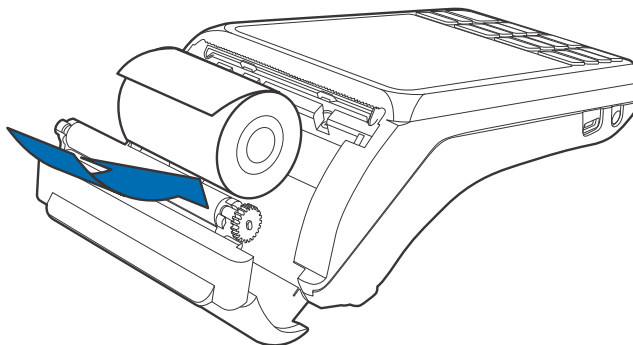

Figure 13 Procedure for Loading Paper Roll
- 2 Load the paper roll as shown in Figure 13, with the edge of the paper on the top of the roll.